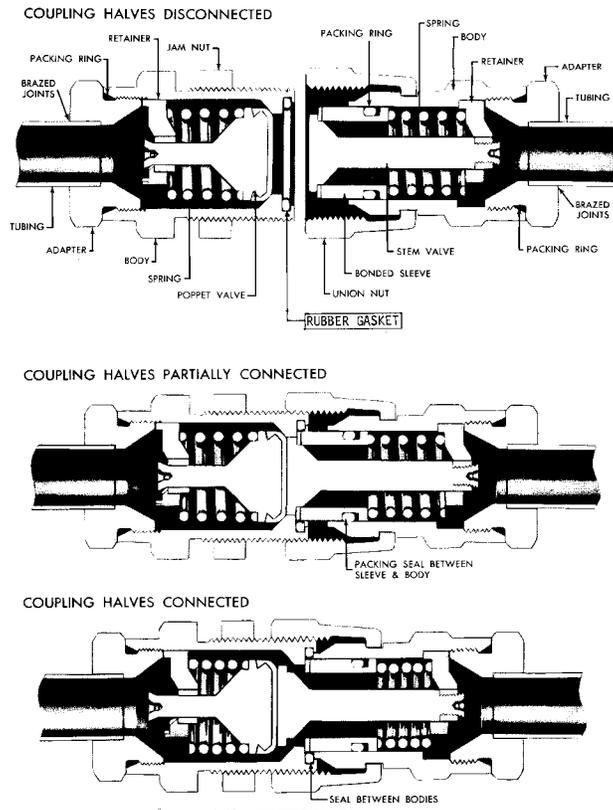

Figure 4: Self Sealing Coupling Cutaway View
- b. Ensure that the flat rubber gasket is clean and in place before connecting a self-sealing coupling as shown in Figure 4.